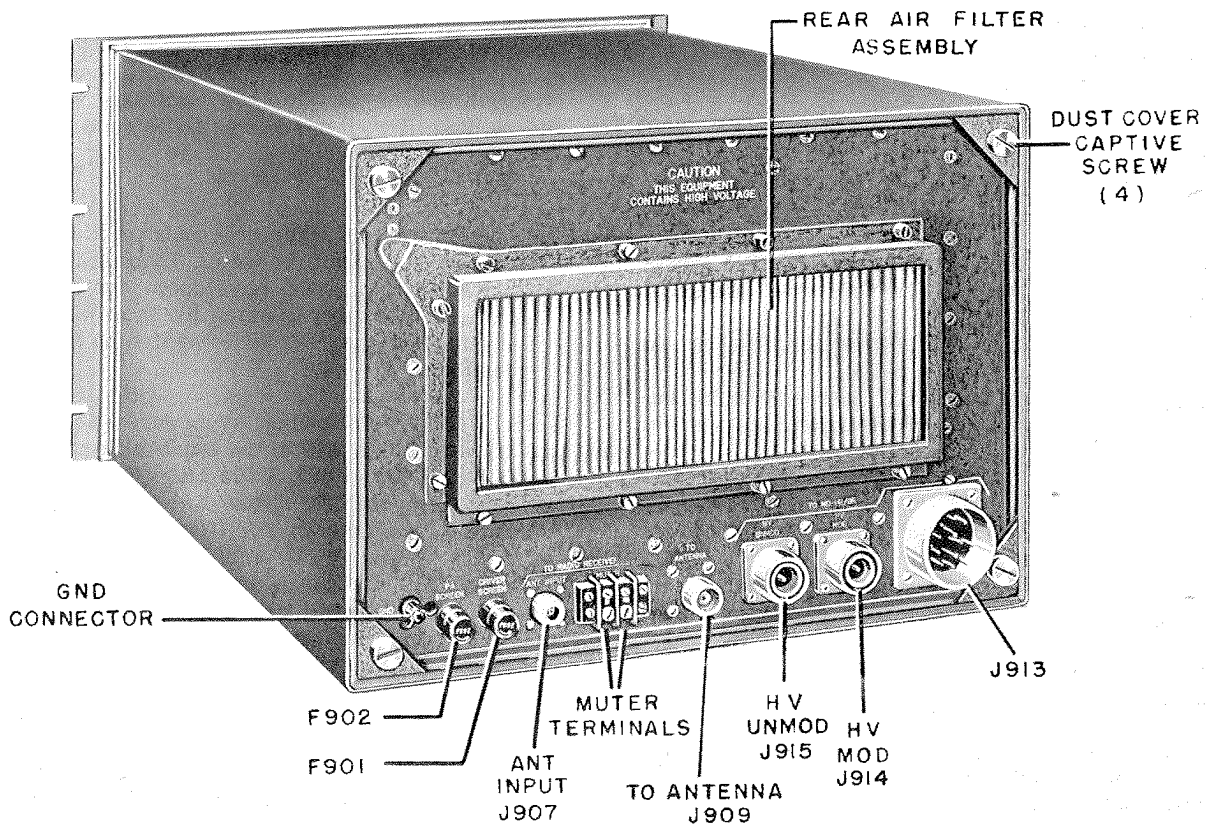

Figure 5-13. Radio Transmitter, Rear View
a. Check fuses F901 and F902, accessible on the rear of the transmitter (figure 5-13).